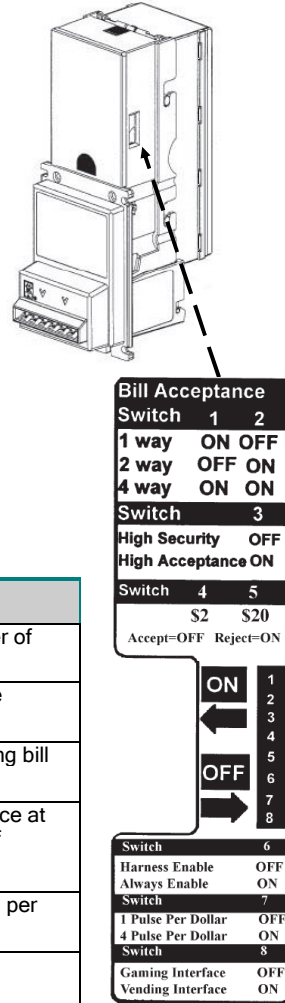

Figure 2
1. Set Bill Acceptor option switches. See Figure 2.
Important Note: Placing any switch ON will override the above options, and the Bill Acceptor will operate according to the switch settings label! (See Figure 2)